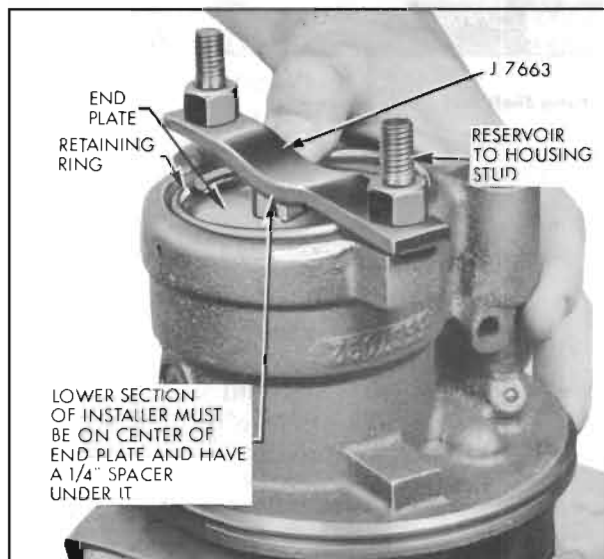

Figure 8-58—Installing Housing End Plate
13. Place end plate retaining ring on top of end plate. Lay a  $\frac{1}{4}$ " spacer on center of end plate, then position Installer J-7663 on end plate so that the depression on it is against the spacer. See Figure 8-58. Attach installer to